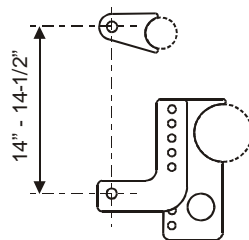

Fig. 1
- If you are working with the factory frame rails, it is recommended that you double plate the frame rails (plate around the frame rail) in the area that the cross member is to be welded. Keep in mind that your upper and lower mounting points should be as perpendicular to each other as possible (see Fig. 1). Measure the distance from frame rail to frame rail and cut the tubing supplied to length. Lightly tack weld the tubing into place. Double check all your measurements.
- It will be necessary to adjust the spring platform up or down to get to the proper shock ride height. The shock ride height is measured from the center of the upper mounting bolt to center of the lower mounting bolt with car sitting on the ground (see Fig. 1). That distance for this application is 14 - 14-1/2 inches. If the chassis ride height is off some, don't be concerned at this point. That can be changed later. If the shock ride height is not correct, jack the car up and place on jack stands. Let the rear end housing hang and adjust the spring seat as needed. Put the car back on the ground and recheck the shock ride height. If that measures out O.K., then check your chassis ride height. If the chassis ride height is off, then jack the car back up and put it back on jack stands. Loosen the two nuts and bolts on both of the housing brackets. Let the rear end down until the bolts are loose in the brackets. With the jack still supporting the rear end remove the nuts and bolts and raise or lower the rear end to the point that gets your chassis ride height right. Reinstall all your nuts and bolts and tighten properly. Be sure to use the nylock nuts upon your final adjustment. Put the car back on the ground and recheck your chassis ride height. Reinstall gas tank, fuel and brake lines. Check for any interference before taking your first drive.